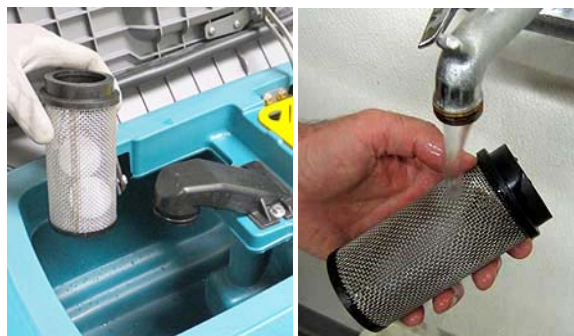

FIG. 85
3. Remove and clean the float shut-off screen (Figure 85).